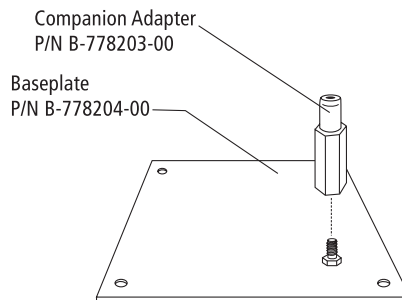

Figure 1-12: Portable Test Fixture
Portable Test Fixture, Figure 1-12	Puritan-Bennett B-778202-00
- portable test fixture (Figure 1-12)